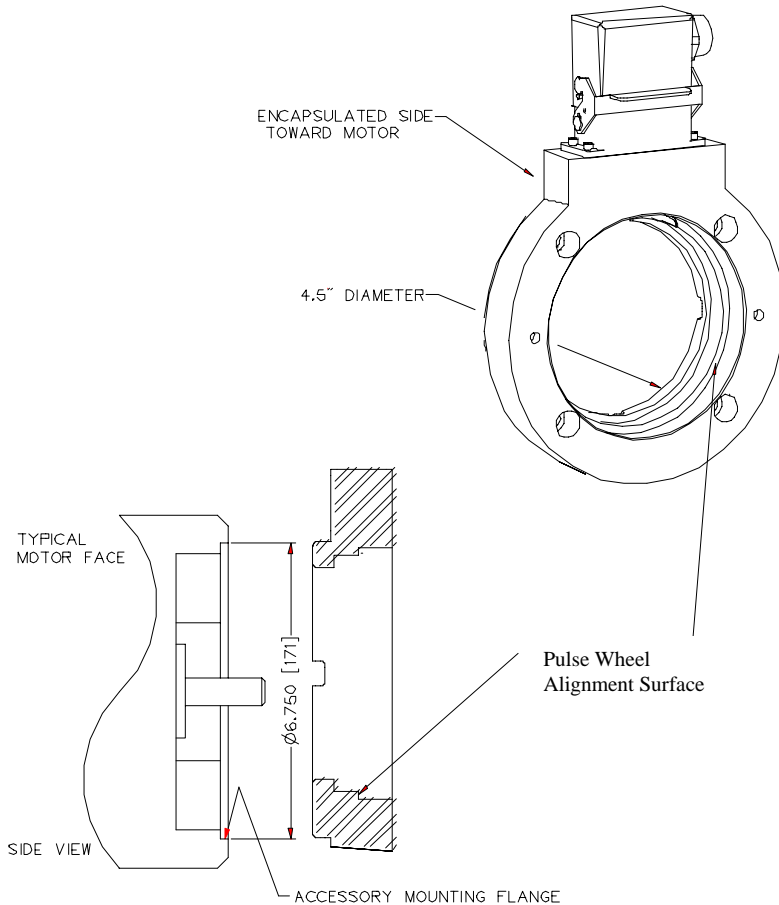

Figure 4: Typical Motor Mounting
Figure 4: Typical Motor Mounting .....	8
To install the tachometer frame: (see Figure 4)
2. Rotate the pulse wheel so the words “THIS SIDE OUT” (or stamped letter “Z”) is visible, away from the motor. Slide the pulse wheel onto the motor shaft. Push the wheel along the shaft until the edge of the pulse wheel is flush with the machined recess in the tachometer frame (see Figure 4). The purpose of this step is to properly center the pulse wheel under the sensor.